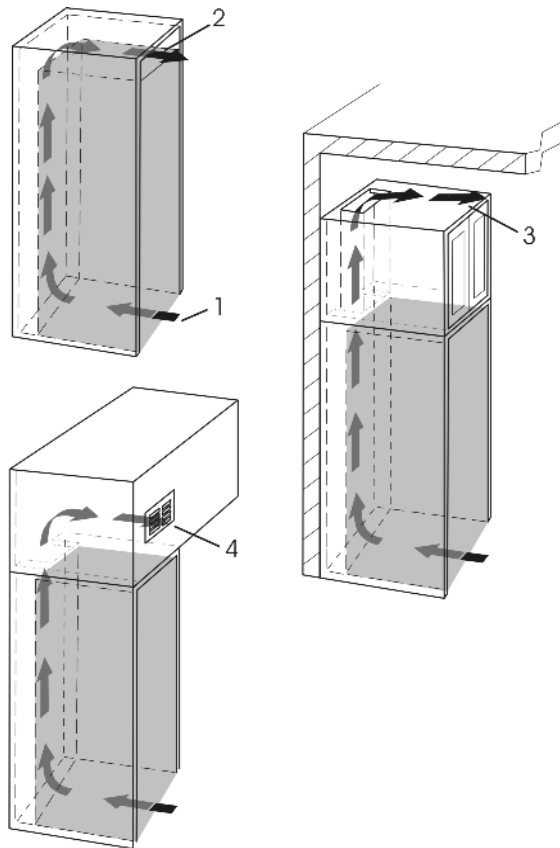

Fig. 8
- An effective ventilation cross-section of at least 31 in² (200 cm²) per unit must be present at the air intake Fig. 8 (1) and air outlet Fig. 8 (2).
- The upper ventilation cross-section can be set up directly above the appliance with an optional ventilation grille Fig. 8 (2), near the ceiling above a cabinet Fig. 8 (3) or as an air vent in an intermediate ceiling Fig. 8 (4).